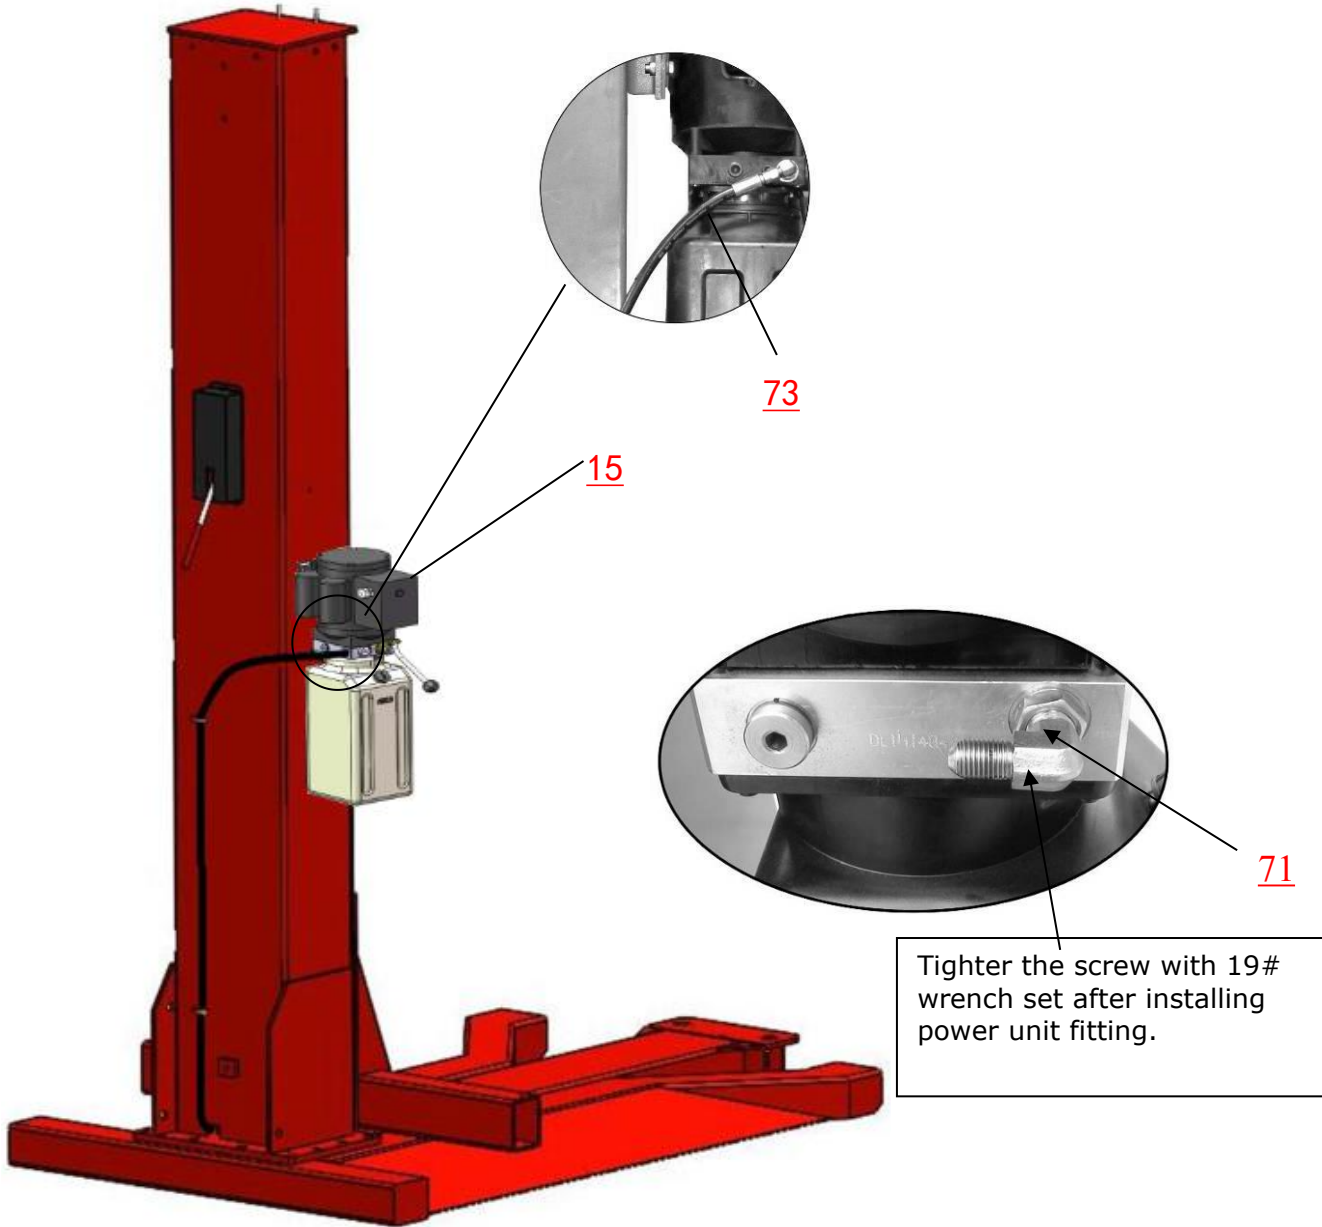

Fig.14
F. Install power unit and oil hoses (See Fig.14)